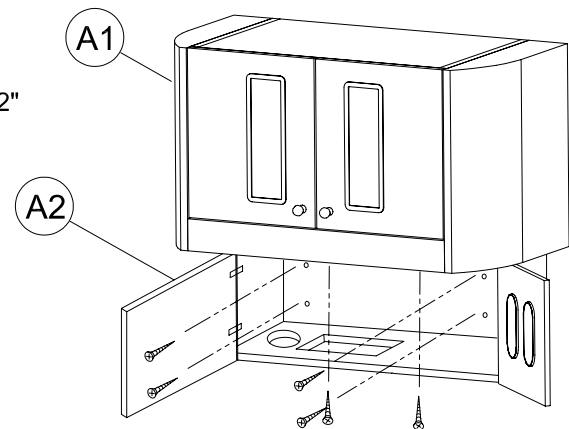

FIGURE 8
Secure the lower cabinet (A2) to the upper by screwing in (2) #8 x 1 1/2" wood screws first then screw in the appropriate screws for the zip-it or molly inserts. See Figure 8